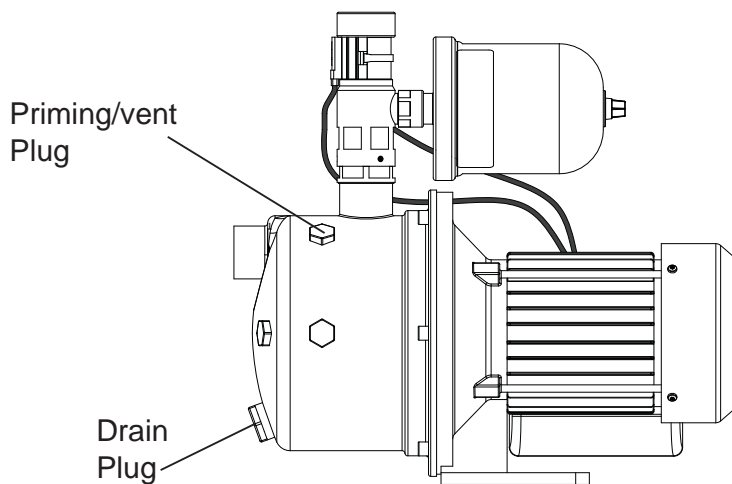

Fig. 8
4.13 **Priming:** Prior to switching the pump on and connecting the outlet hoses to the system pipework the pump chamber must be primed. The pump must be primed (filled with water) before starting. Turn on water supply, prime and vent the pump by unscrewing the priming plug (Fig. 8) slowly until all air escapes and water emerges. Re-tighten the plug.
First ensure both suction and delivery hose connections are airtight. Remove the priming plug (Fig. 8) and slowly fill the pump body with water, whilst allowing the air to escape. Replace the plug.